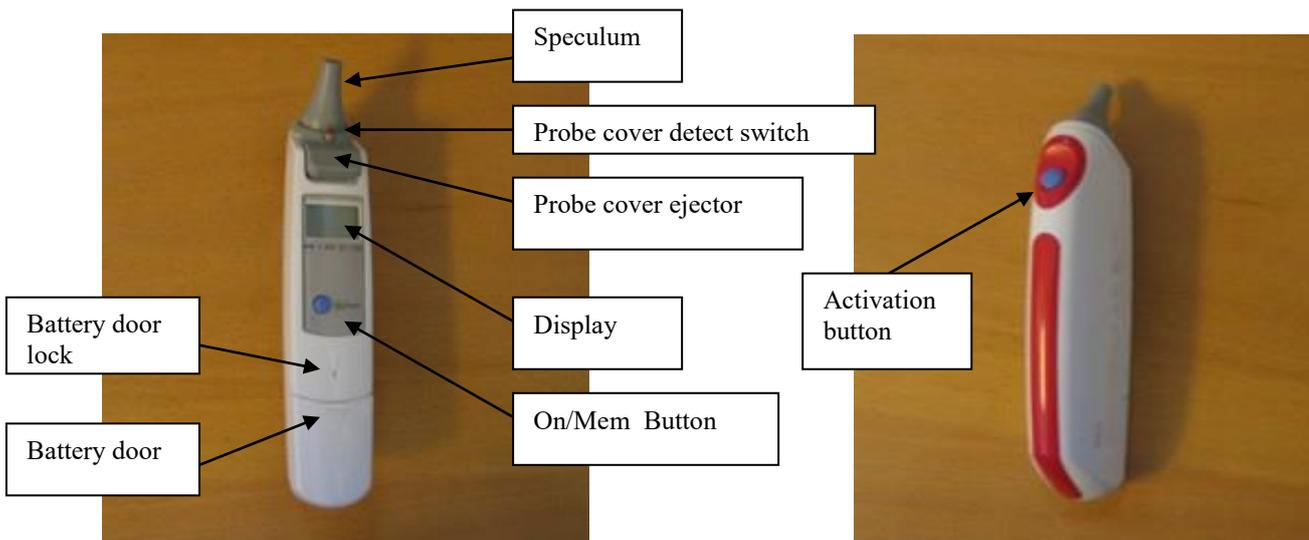

Figure 15: Transfer IRET; front and back view
- Press and hold the On/Mem button (see Figure 15)